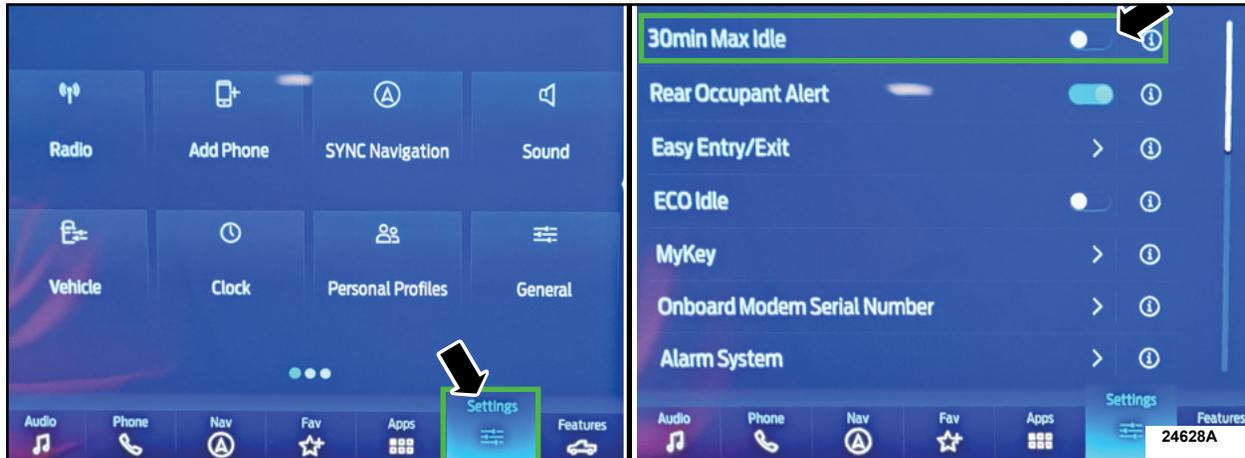

FIGURE 14
- From the center display press the vehicle settings button and turn on the 30min Max Idle option setting. See Figure 14.